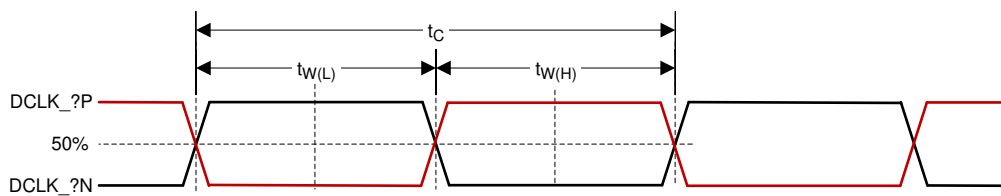

Figure 5-13. HSSI CLK Characteristics
- (7) See Figure 5-13 for pulse duration high and low for HSSI.